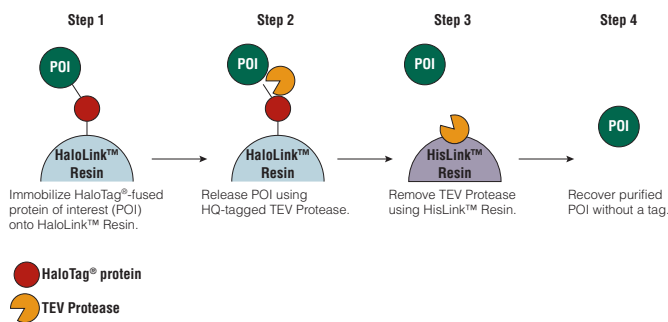

Figure 1. Streamlined purification process leads to higher yield of purified protein.
HaloLink™ Resin via an immobilized chloroalkane. The HaloTag® Protein Purification System allows stringent washing because of the covalent attachment of the HaloTag® protein to the resin. TEV Protease cleaves the target protein from the HaloTag® protein which is bound to the HaloLink™ Resin^(a,b). Next, the TEV Protease, which has an N-terminal (HQ)₅ tag, is removed from the protein of interest using the HisLink™ Resin^(c,d), and the purified protein of interest is recovered. The general purification scheme is depicted in Figure 1.